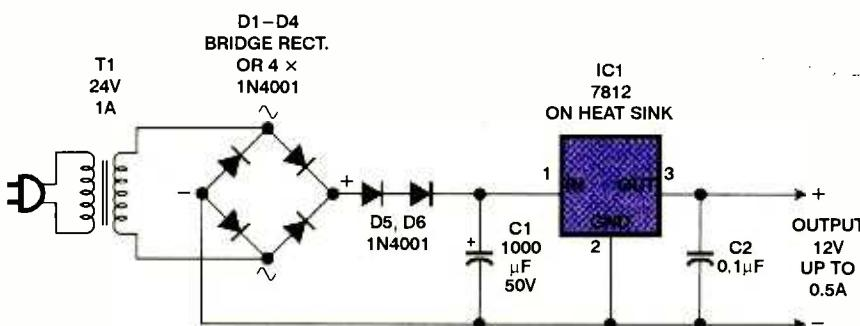

Fig. 1. Here is a complete 12-volt power supply using a 24-volt transformer. See the text for an explanation and suggested improvements.
**A** A 5- or 10-amp battery charger requires a big transformer that is otherwise somewhat hard to find; it's cheaper to buy one than to build one. If you want a ½-amp float charger that can be connected to the battery indefinitely, use the circuit in Fig. 1, but add a green LED in series with the ground pin of the LM7812 to boost the output to 14.1 volts, and connect it to the battery through a 12-volt, ½-amp light bulb in order to limit current. For more information about charging lead-acid batteries, see *The ARRL Handbook for Radio Amateurs*.